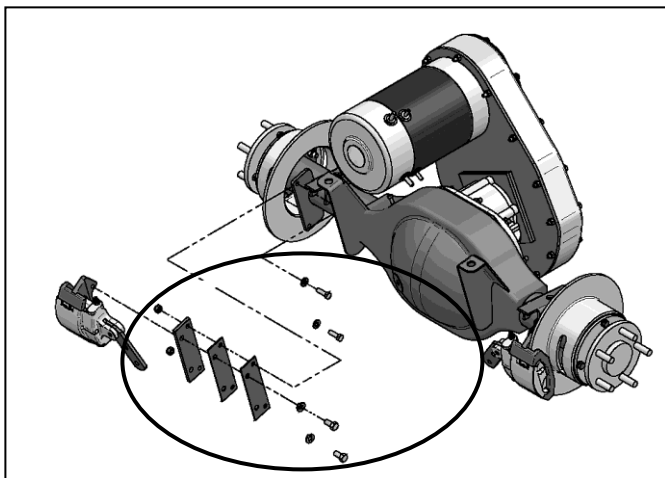

Figure 5-5- Rear
2. Remove brake caliper mounting hardware (Figure 5-5 from the brake caliper mounting bracket.
9. Reinstall brake caliper with mounting hardware (Figure 5-5). Use caution when remounting the brake calipers. Tighten each of the 5/16" bolts gradually alternating from one to the other. As you tighten the bolts be certain that the pads are parallel to the disk—if they are not, a "spongy" brake pedal may result. Also be sure that the caliper can still move back and forth in the caliper housing mounting —if it can't, uneven pad wear will result.